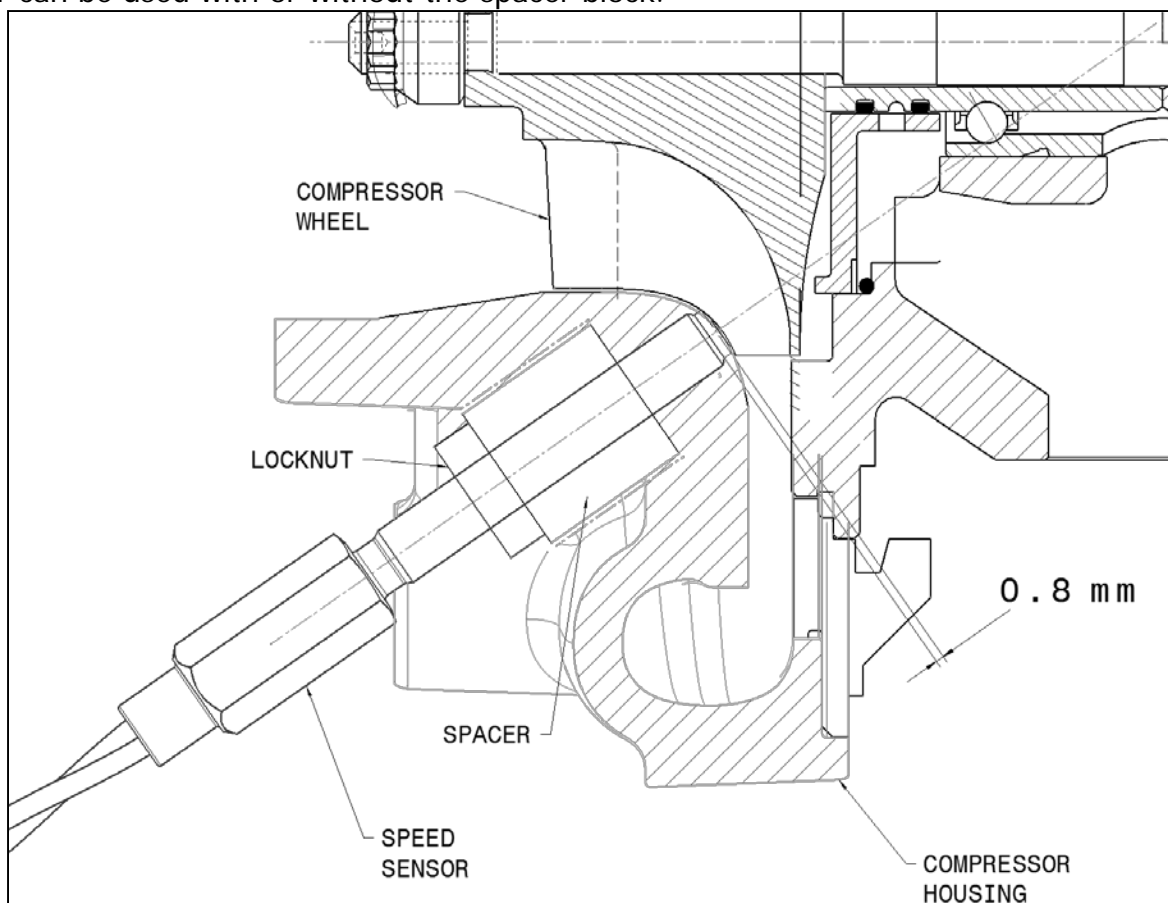

Fig. 10
10. Setting the sensor depth: if the turbocharger is still in the vehicle, ensure that there is enough space to adjust the sensor by turning it in and out. Also ensure there is sufficient space to turn the compressor wheel by hand. If not, remove the turbocharger from the vehicle. Slowly turn the sensor clockwise, while simultaneously spinning the wheel very slowly. Turn the sensor inwards, just until the tip contacts the edge of a compressor wheel blade (see figure 10). Be extremely careful not to jam the wheel into the sensor – the blades or sensor could be damaged. You should be able to feel a SLIGHT resistance and noise while gently turning the wheel as it contacts the sensor. Then turn the sensor back counterclockwise, approximately **1.6** full turns. This sets the sensor depth correctly. The nominal distance from the blade edge is 0.8mm. The sensor thread pitch is 0.5mm/thread ( $0.5\text{mm}/\text{thread} \times 1.6 \text{ threads} = 0.8\text{mm}$ ).
**NOTE:** If the Garrett Turbo Speed Sensor Kit is being used with an older Garrett (T-Series) turbo, or with a non-Garrett unit, refer to figure 10 below for general placement of the sensor. It should always be installed at 0.8mm clearance from the wheel. The sensor hole should be drilled at an angle, placing the sensor near the base of the wheel below the level of the splitter blades, in order to accurately measure the speed. On custom applications the sensor can be used with or without the spacer block.